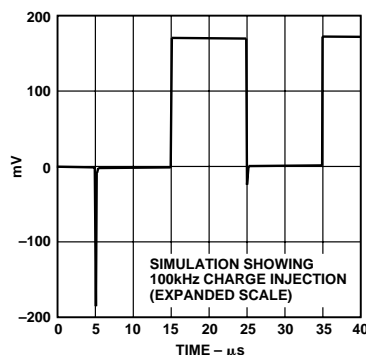

Figure 11. Output of simulation to show the effect of charge injection switching at 100 kHz.
- A.** The most efficient way to evaluate a switch's charge injection performance is to use a setup similar to the one shown below. By turning the switch on and off at a relatively high frequency (>10 kHz) and observing the switch output on an oscilloscope (using a high impedance probe), a trace similar to that shown in Figure 11 will be observed. The amount of charge injected into the load is given by $\Delta V_{OUT} \times C_L$. Where ΔV_{OUT} is the output pulse amplitude.